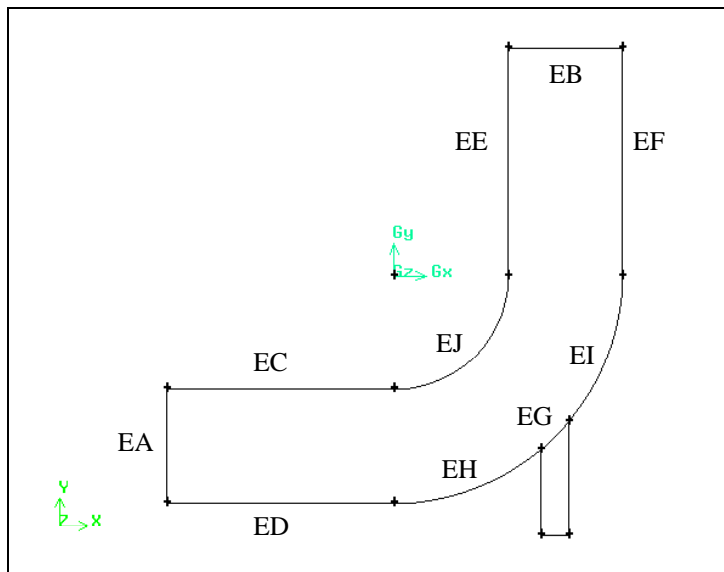

Figure 2-15: Edges to be meshed
- a) Shift-left-click the edge marked EA in Figure 2-15.
- b) Shift-left-click the edge marked EB in Figure 2-15.